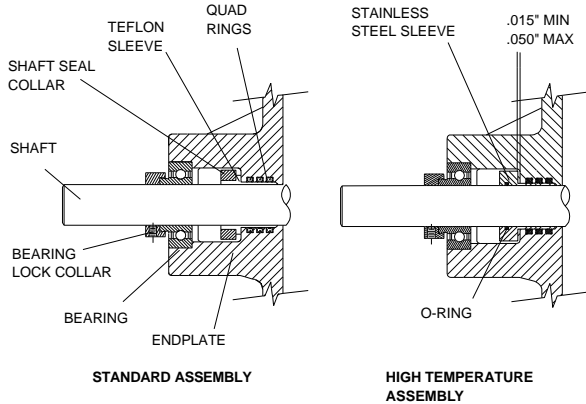

Figure 6-4 Replacing Bearings and Seals
5. Reposition and tighten the shaft seal collar. Tighten the allen screw first and then the two set screws. (For units with high temperature seals, refer to Figure 6-4.)
Refer to Figure 6-4.